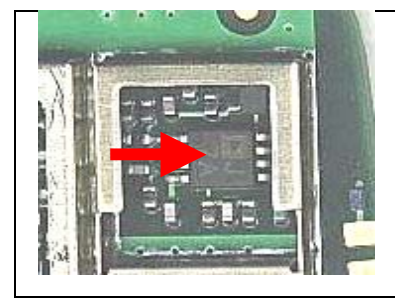

Fig. 2.3
- Replace the U600 if there is no TX power signal.(Fig2.3)